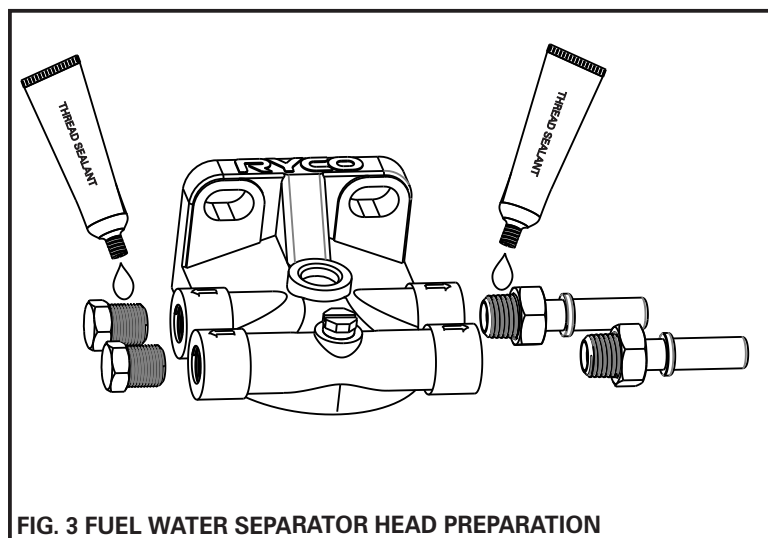

FIG. 3 FUEL WATER SEPARATOR HEAD PREPARATION
3. Apply the supplied thread sealant to the thread of the blanking plugs and the quick connectors. Install them as per Fig. 3, ensuring they are tight. Note: Before priming, the thread sealant needs at least 20min to cure.